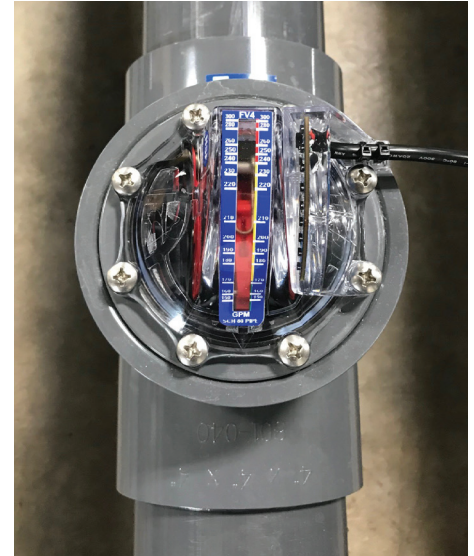

Fig 2.5
6. Referring to Fig.2.5 (right), identify the required side of the FlowVis to mount the FlowVis sensor, ensuring that the sensor is fully seated and the screw holes line-up with those on the FlowVis lid assembly.
2. Unless previously done in section 6.2, remove the two FlowVis lid screws that will align with the hole mounting tabs for the sensor (refer to Fig.2.5 on pg. 7).
3. Mount the sensor, ensuring that it is fully seated and the screw holes line-up with those on the FlowVis lid assembly (see Fig.2.5).